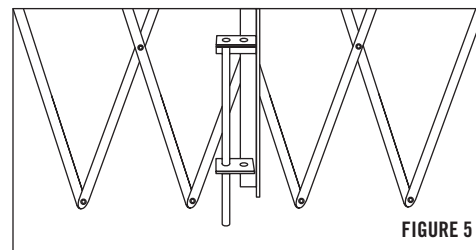

FIGURE 5
- 5) Only gates 7' and wider include a center drop pin. If included, fully extend gate across opening and mark the floor where center drop pin is located. Drill a 3/4" diameter x 3" deep hole into the concrete floor. Lower center drop pin. (See Figure 5)